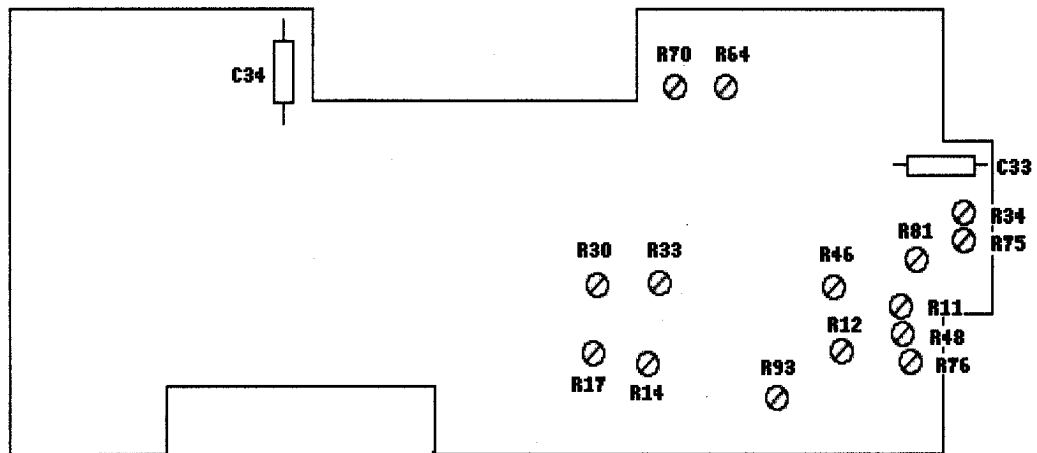

Figure 1. Test instrument – top view.
- (1) Connect TI **MODULATION GENERATOR OUT** (600Ω) to audio analyzer **INPUT HIGH**.
- (2) Set up audio analyzer to measure frequency.
- (3) Set **FREQ/PERIOD MULT (Hz/s)** switch to **1K/100K** and adjust **VARIABLE** control fully cw.
- (4) Adjust R48 (fig 1) until audio analyzer indicates between 100.0 and 100.4 kHz (R).
- (5) Adjust **VARIABLE** control fully ccw.
- (6) Adjust R93 (fig 1) until audio analyzer indicates between 960 and 1000 Hz (R).
- (7) Disconnect TI from audio analyzer and connect to oscilloscope **CH1** input.
- (8) Set up oscilloscope to measure frequency symmetry.
- (9) Set **FREQ/PERIOD MULT (Hz/s)** switch to **10/1K** and adjust **VARIABLE** control fully cw.
- (10) Adjust R14 until the oscilloscope indicates a duty cycle between 49 and 51% (R).
- (11) Adjust **VARIABLE** control fully ccw.
- (12) Adjust R17 until the oscilloscope indicates a duty cycle between 49 and 51% (R).
- (13) Set **FREQ/PERIOD MULT (Hz/s)** switch to **1K/100K**.
- (14) Adjust R75 until the oscilloscope indicates a duty cycle between 49 and 51%.
- (15) Repeat this adjustment procedure for best in-tolerance condition on all ranges.
- (1) Adjust R34 (fig. 1) for minimum indication less 10 mV on audio analyzer (R).
- (2) Adjust R33 (fig. 1) for minimum indication less 10 mV on audio analyzer (R).
- (3) Adjust R76 (fig. 1) for minimum indication less 10 mV on audio analyzer (R).
**b. Adjustments.** Adjust R11 and R12 (fig. 1) in increments for minimum distortion less than 5 percent (R) on audio analyzer.
- (1) Adjust R46 and R30 (fig.1) for optimum ramps.
- (2) Repeat **a**(3) and **b**(1) above for optimum ramps.
- (3) Adjust R81 (fig.1) until the negative peaks coincide with horizontal centerline on oscilloscope.